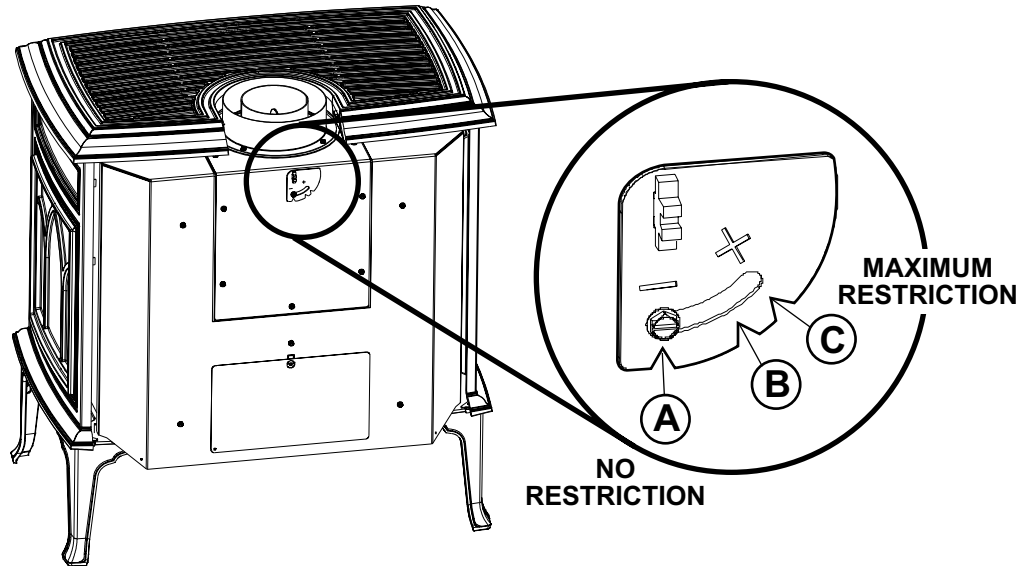
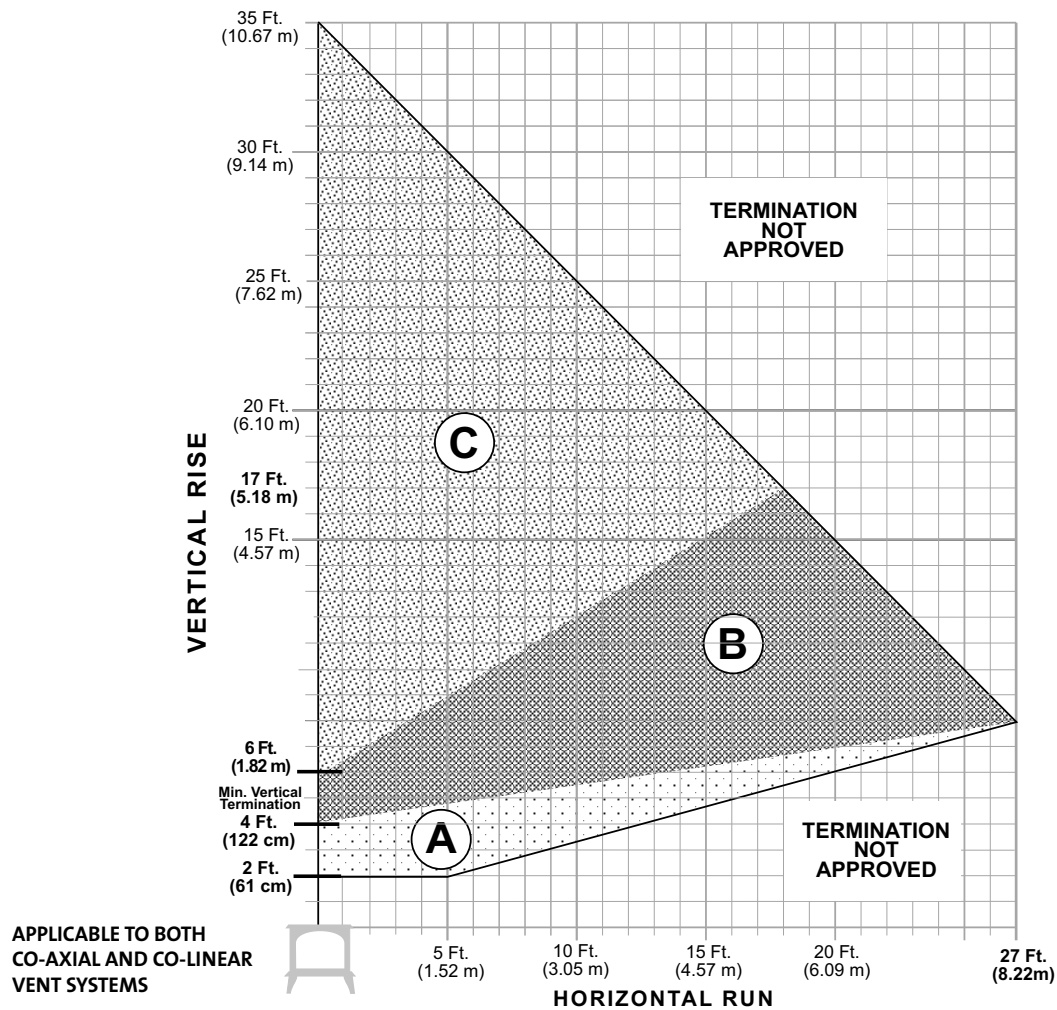

Figure 14. Use 1/4" socket driver to loosen the Exhaust Restrictor dial and adjust to the appropriate notch for your termination zone.
Figure 15. Vent Termination Zone Matrix - NG / LP
The Exhaust Restrictor is an adjustable plate located within the firebox exhaust outlet. It is adjusted by rotating the dial at the back of the stove within a range from the factory-set, fully open (no restriction) position to a fully restricted position. See Fig. 14. The Plus (+) and Minus (-) signs on the dial relate to degrees of restriction, from zero to approximately 70%. The three lettered positions correlate to the termination zones (A,B,C) diagramed in figure 15. Use the diagram to determine the degree of restriction and shutter setting you should use.
3. Locate the restrictor adjustment dial on the top of the exhaust outlet. Use a 1/4" nut driver to loosen the lock nut and pivot the dial to the position appropriate to your termination zone. See figs. 14 and 15.
The circled letter designations in the vent matrix in figure 15 correspond to the Exhaust Restrictor dial settings on the stove. First, determine which vent termination zone is appropriate for your installation, then adjust the restrictor to the corresponding position as shown in figure 15.
- The termination should fall within the shaded areas of the grids depicted in the Vent Matrix, fig. 15, page 11.
- Any horizontal termination must fall within the shaded portion of the vent window matrix shown in fig. 15.